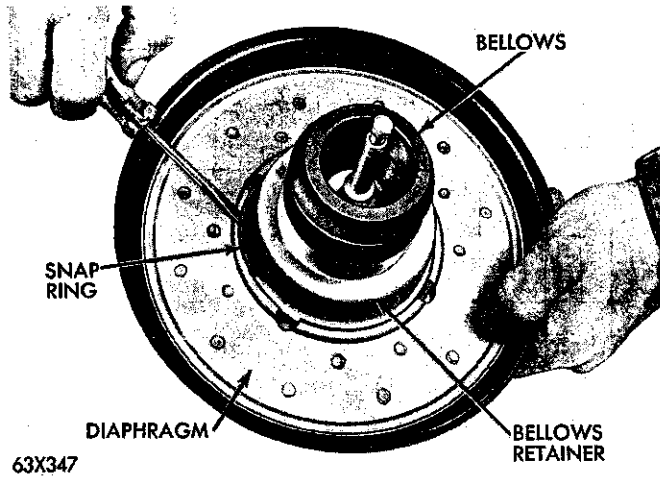
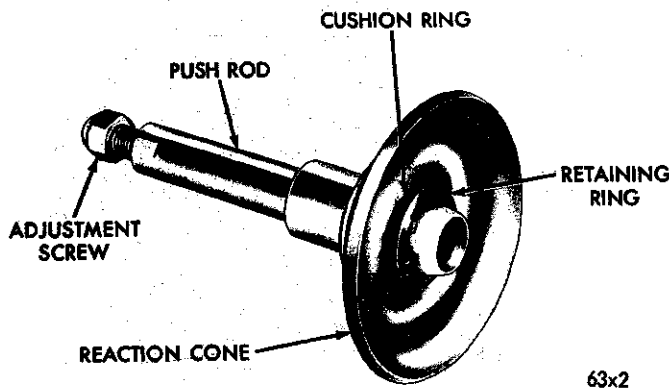

Fig. 28—Removing Bellows Retainer
Fig. 29—Master Cylinder Push Rod
(10) Using a screw driver pry out the large retaining snap ring that retains the bellows to the diaphragm (Fig. 28).
(11) Pull the bellows out of the retainer and remove the retaining ring from the bellows.
(12) Slide the master cylinder push rod off of the plunger (Fig. 29).